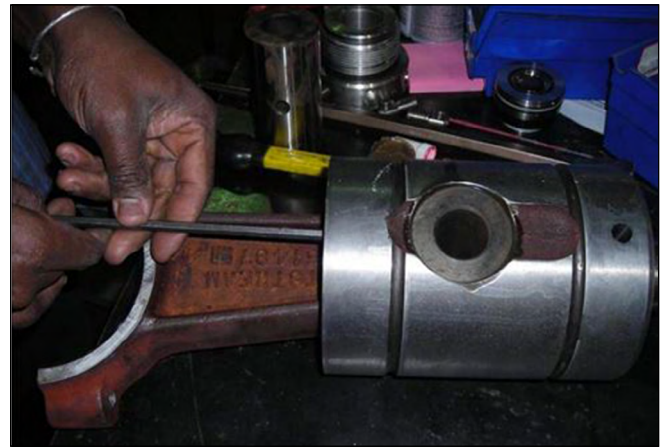

Figure 126: Set Screw Removal.
1. Remove the two set screws from the crosshead (Figure 126). The set screws are installed on top of one another in the same hole.